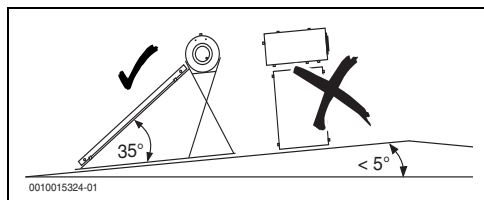

Fig. 8
- ▶ Pay attention to the permissible roof inclination and positioning (Fig. 8).